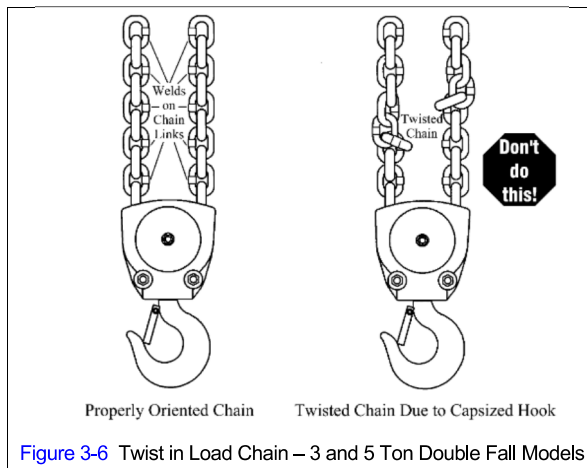

Figure 3-6 Twist in Load Chain – 3 and 5 Ton Double Fall Models
3.2.6 **⚠ WARNING** Verify that the load chain is not twisted or tangled prior to operating the hoist. Make sure the bottom hook on 3 and 5 Ton double fall models is not capsized. See Figures 3-6 and 3-7. Correct all chain irregularities before conducting the first hoist operation.